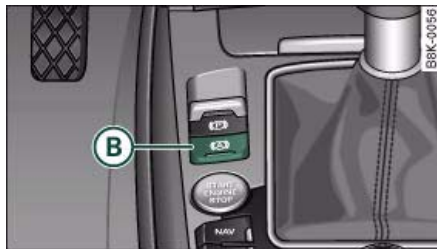

Fig. 134 Detail of the centre console: Button for Audi hold assist
- Press button **B** ⇒ fig. 134 in the centre console to switch on the Audi hold assist function. The indicator lamp in the switch will light up.
- Press button **B** ⇒ fig. 134 to switch off the Audi hold assist function. The indicator lamp in the switch will go out.